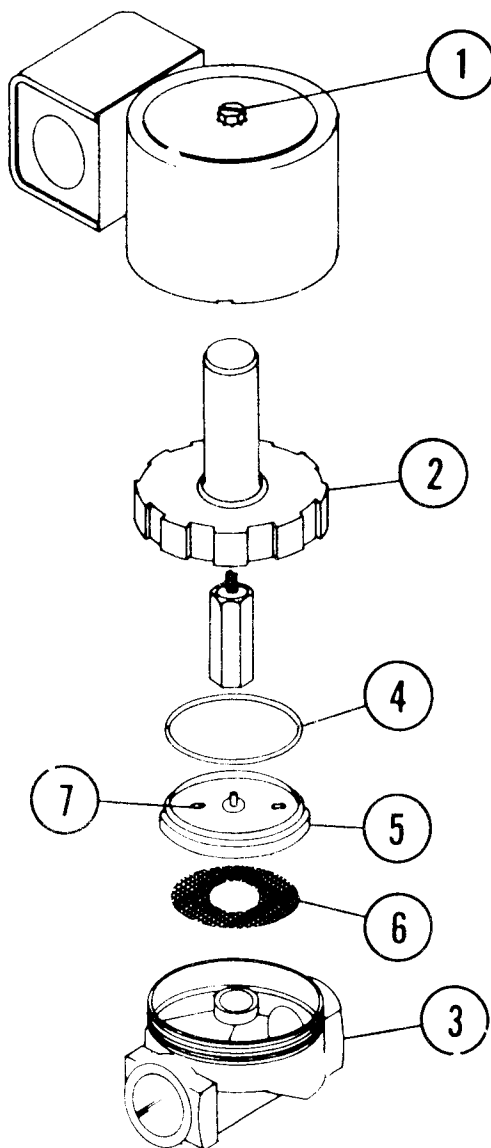

Figure 7.5.3
7.5.3 Service Solenoid Valve Diaphragm (See Figure 7.5.3)
7.5.4 Replace Solenoid Valve Coil (See Figure 7.5.3)